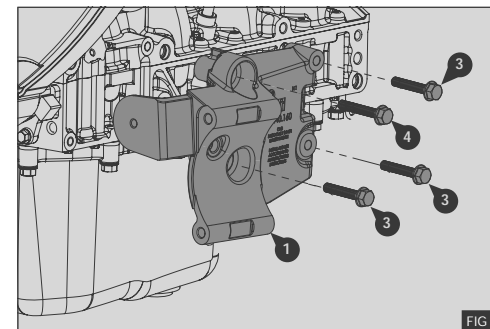

FIG 5
1. Fit the supplied compressor mount bracket ① to the engine using the three bolts ③ M8 x 45 and one bolt ④ M8 x 50 - Fig 5
2. Torque bolts ③ & ④ to 25Nm / 18Lb ft